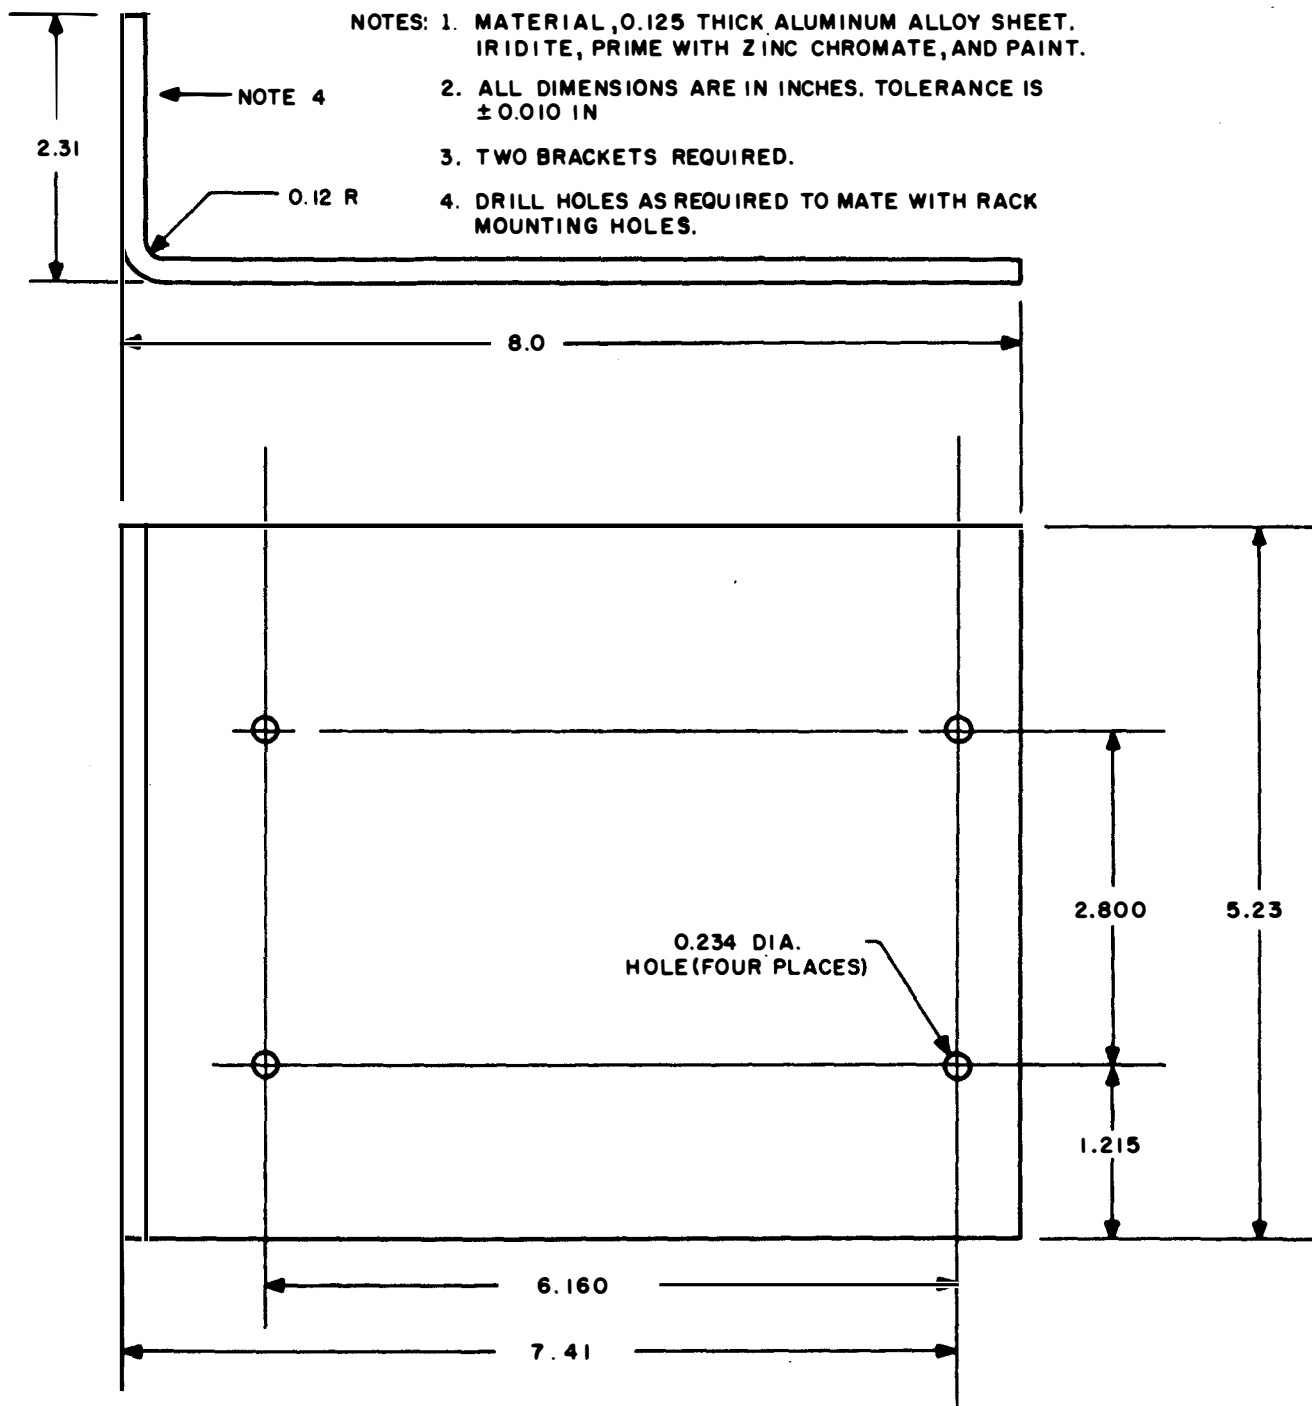

Figure 2-2. Rack Mounting Bracket, Fabrication Diagram
- (1) Fabricate the required rack mounting brackets using the information provided in figure 2-2.
- (2) Remove the stack mounting brackets from the C-3698/URA-38 and return them to stock.
- (3) Attach the rack mounting brackets to the sides of the C-3698/URA-38 using the hardware removed from the stack mounting brackets.
- (4) Slide the C-3698/URA-38 into the rack and attach using the required hardware (supplied by the installing activity).